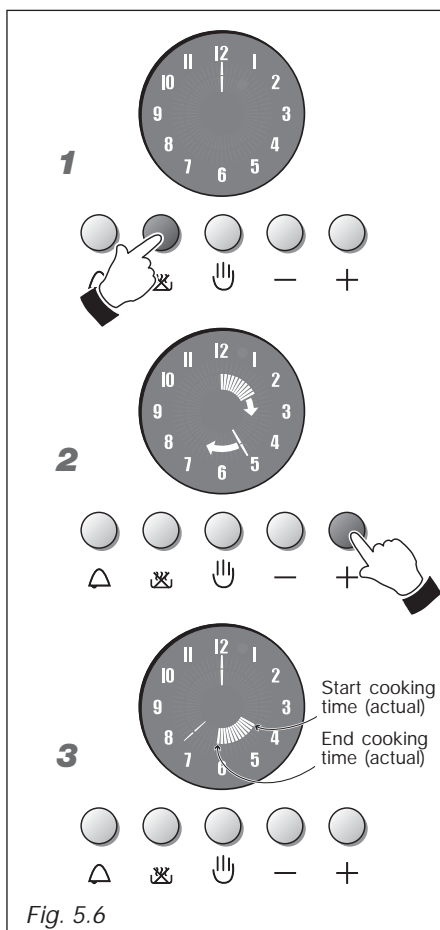

Fig. 5.6
## SEMI-AUTOMATIC COOKING (fig. 5.6)
1. Fig. 5.6 - To set the cooking time (max 6 hours) press button , the electronic clock luminous hands go out and a luminous hand lights up on number 12.
2. Fig. 5.6 - Within 7 seconds press  button and another luminous hand (like seconds and minutes) lights up on the display. Every increasing (additional inner hand) indicates one minute. Moreover every increasing of the 12 minutes is indicated by an inner luminous hand (5 luminous hands indicate one hour). To decrease the required time press  button.
3. Fig. 5.6 - After 7 seconds the inner luminous hands turn automatically on the time of the day indicating the remaining cooking time.